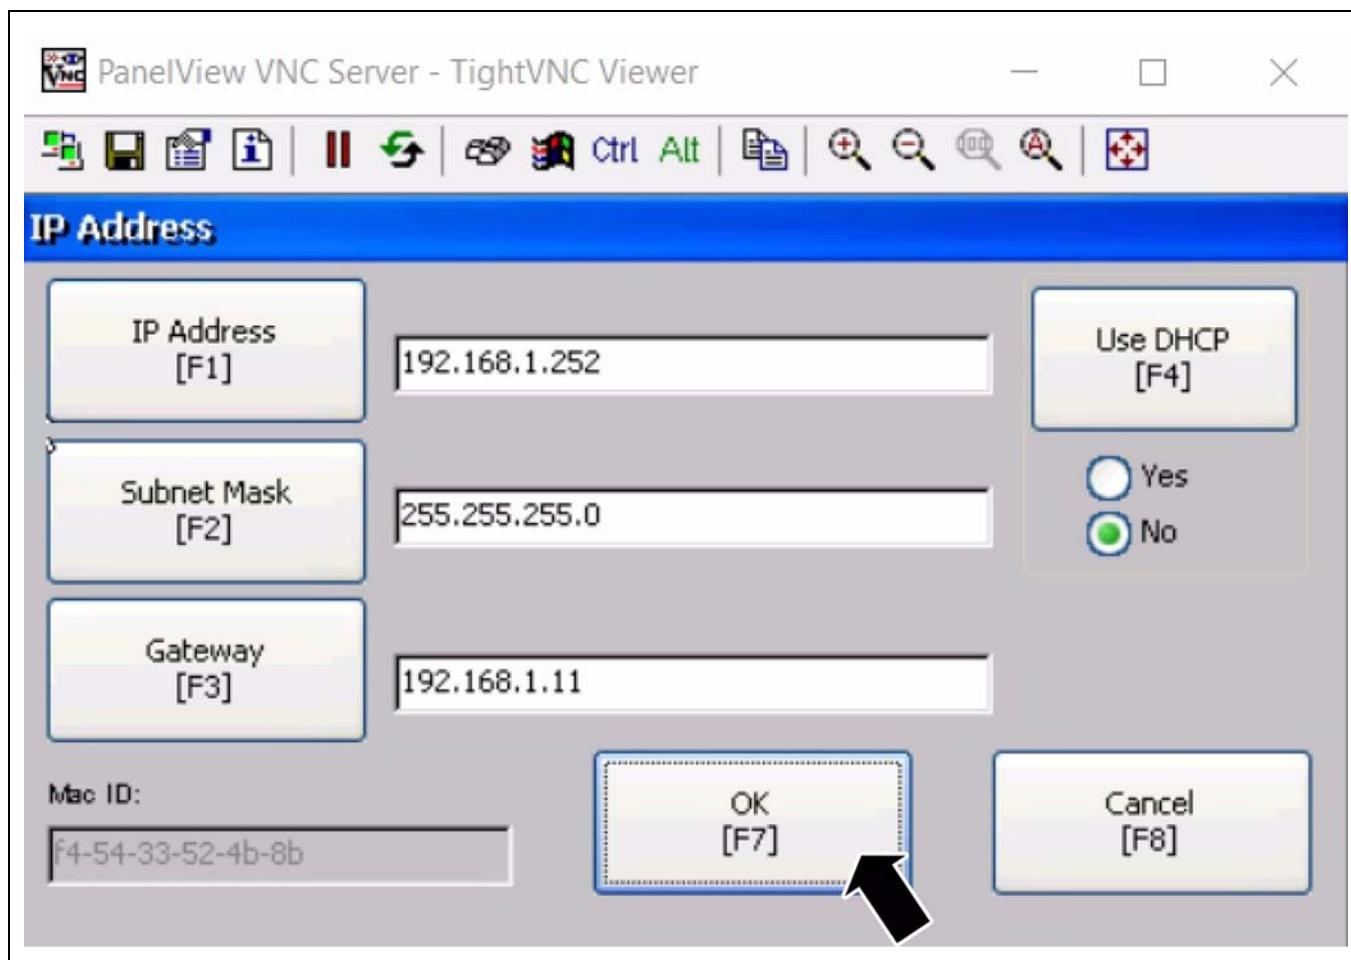

Figure 4I
9. Press OK to be taken back to the screen below. Continue to cancel out to get to the FactoryTalk menu. (See Figure 4I.)